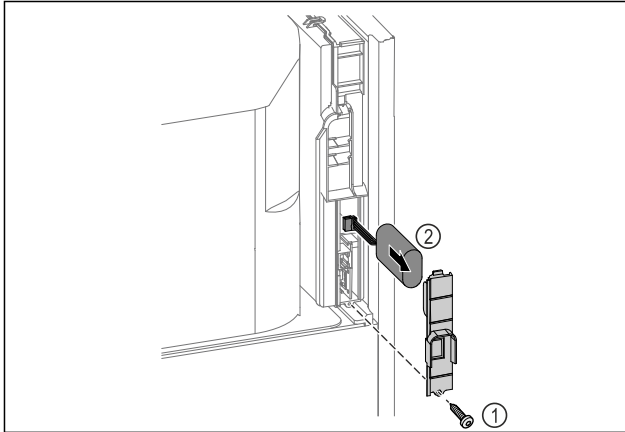

Fig. 217
- Unscrew screw and remove cover from the back of the appliance Fig. 217 (1).
- Disconnect the battery and remove it Fig. 217 (2).